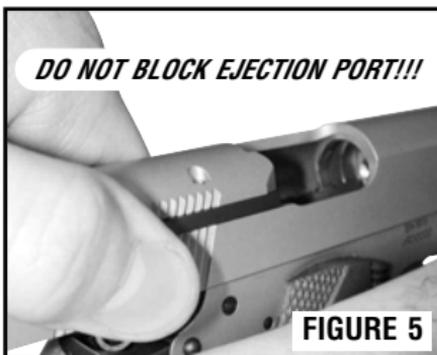

FIGURE 5
- Point the muzzle in a safe direction, grasp the serrated sides of the slide from the rear with the thumb and fingers as shown in Figure 5, and briskly draw the slide fully rearward in order to extract any cartridge from the barrel chamber and clear it from the pistol. Do not obstruct the ejection port because doing so can interfere with ejection of a cartridge.
- Check the barrel chamber and bore visually for any live rounds or obstructions (Fig.5).
- Familiarize yourself with the safety lever on your pistol. When the safety lever is fully down as shown (Figure 8 (notice NO engagement between safety lever and Safety Engagement Notch), it is in the "fire" position; when the safety lever is fully up, as shown in Figure 5 (notice FULL engagement between safety lever and Safety Engagement Notch), it is in the "safe" position. It can only be placed in the "safe" position when the hammer is fully cocked (Figure 9).